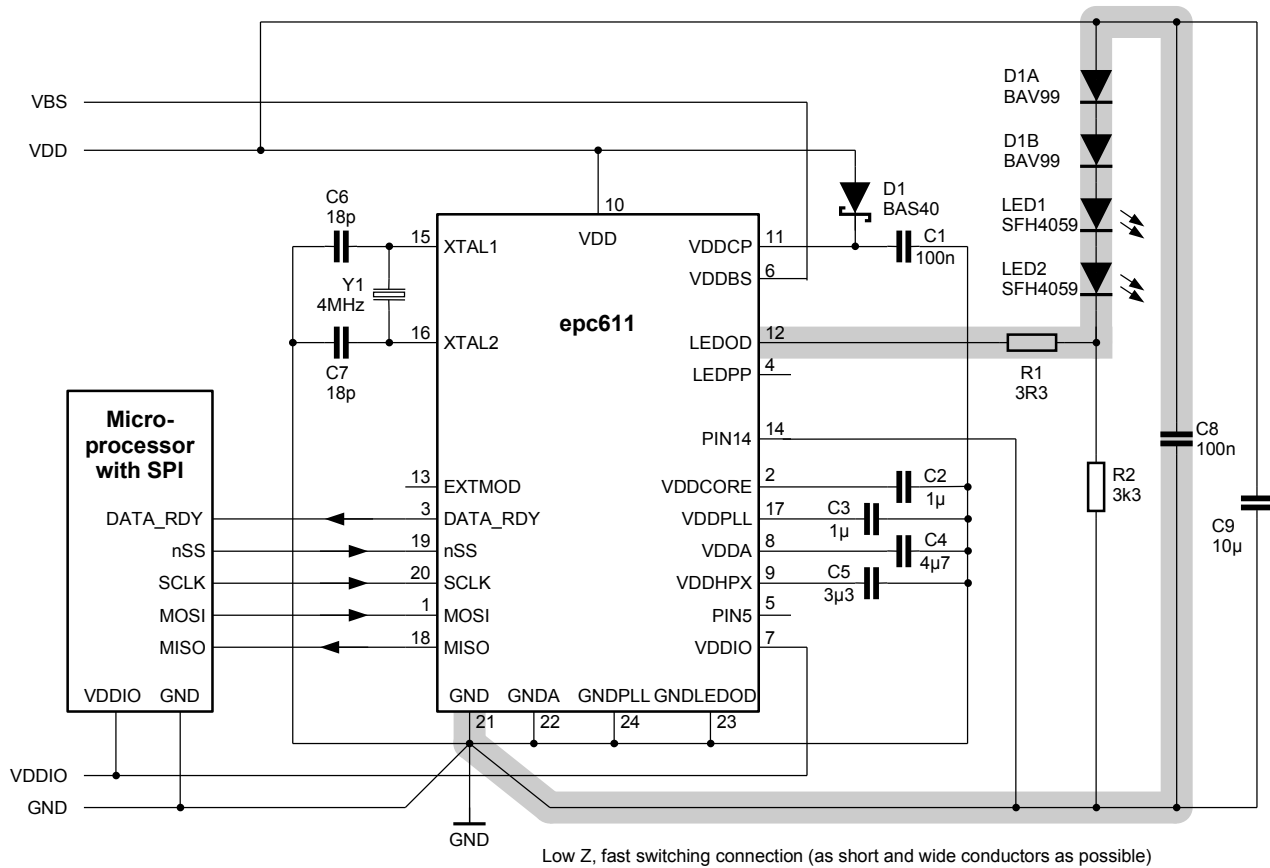

Figure 13: Typical application diagram
Table 11: Values of the components related to epc611 chip (Figure 13)
14. Pins not listed here or explained later have to be connected according to Figure 13.
1. XTAL1 and XTAL2 are the input/output pins of the internal oscillator. They can be used either with a 4.0 MHz quartz crystal or resonator. The capacitor values C6 and C7 should follow the recommendation in the datasheet of the quartz or resonator (refer to Figure 13).
LEDOD is an open-drain nMOS FET driver output. This allows direct drive of illumination sources e.g. LD or LED. When the LED driver is active (ON), the LED current flows through the resistor R1 into the LEDOD pin, through the on-chip driver and comes out of the chip on the VSSLED ground pin (Figure 13).